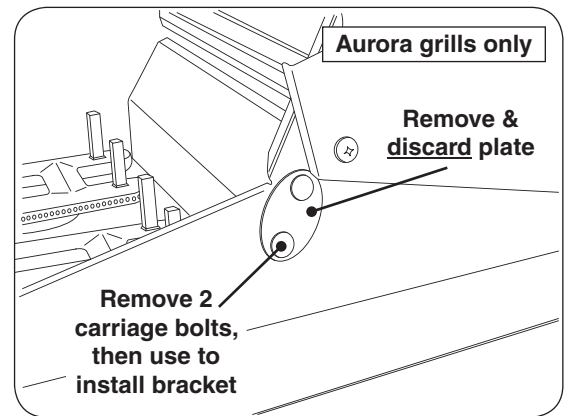

Fig. 3-1 Install bracket on rt side of grill (3603G, 3606G)
1. Remove the two carriage bolts and oval plate from the right side of the grill. Discard the plate. Align the **(B)** motor bracket over the exposed holes, with the bracket facing forward. Replace and tighten the carriage bolts. See Fig. 3-1.
1. Remove the two carriage bolts and oval plate from the right side of the grill. Discard the plate. Align the **(B)** motor bracket over the exposed holes. Replace and tighten the carriage bolts. See Fig. 3-1.